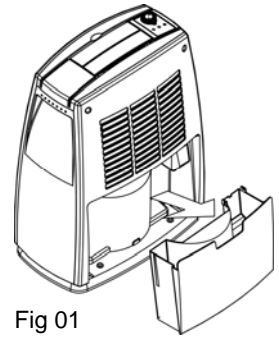

Fig 01
1. Take out the water tank as Fig 01, and pour out the water.